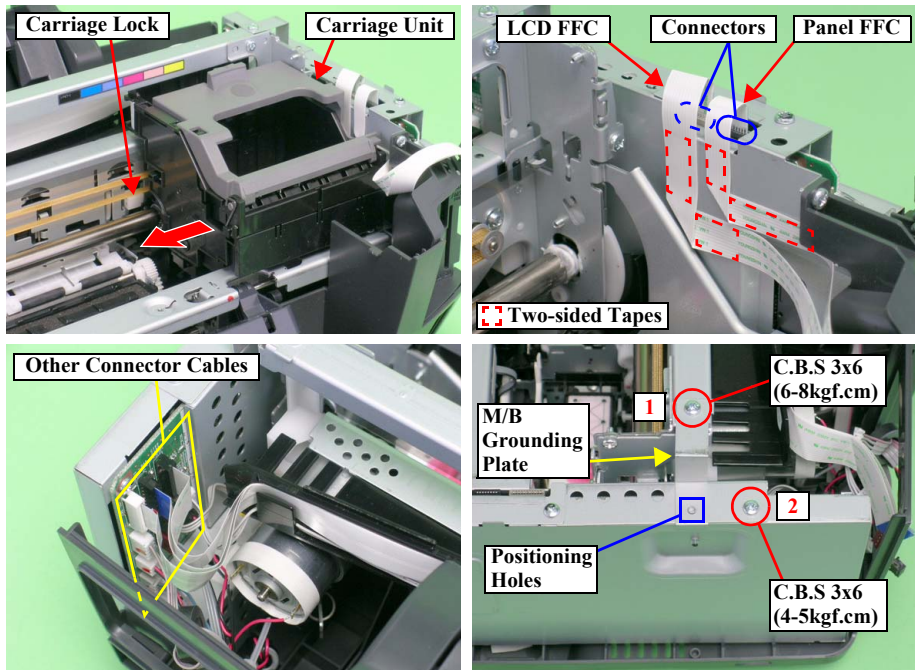

Figure 2-24. Removing the Main Board Assy. (1)
- Set the positioning hole (□) of the M/B Grounding Plate onto the guide pin. See Figure 2-24.
- Tighten the screws to secure the M/B Grounding Plate in the order shown in Figure 2-24.